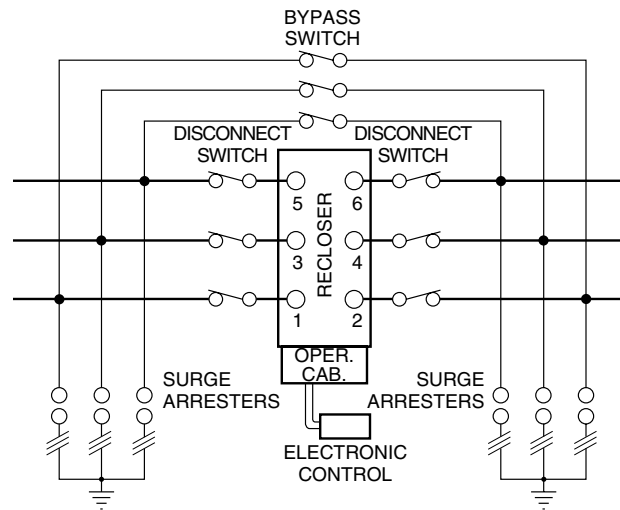

Figure 3. Typical recloser connections, with switches to facilitate maintenance and with complete surge protection
5. Mount the recloser. Use the lifting lugs located on the frame and follow approved procedures. See Figure 3.